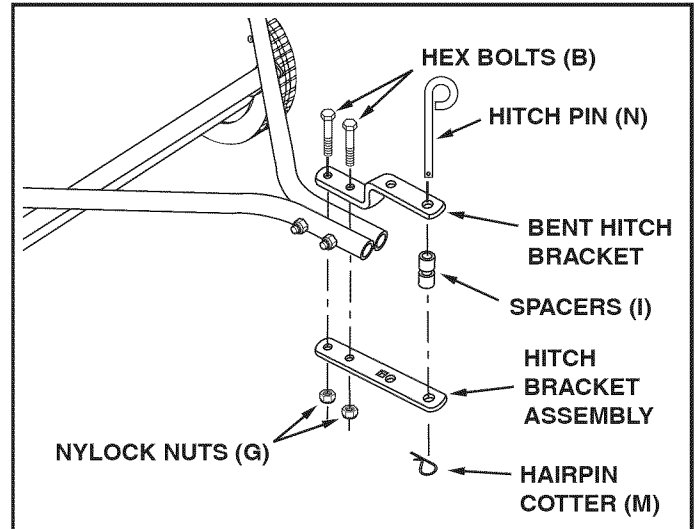

FIGURE 9
- If the tractor hitch is less than 10" above the ground, assemble the hitch brackets as shown in figure 9. Insert two hex bolts (B) through the brackets, with the rear hex bolt between the cross bolts in the hitch tubes. Secure the hex bolts (B) with two nylock nuts (G). **Do not tighten yet.**
- Assemble the two spacers (I) onto the hitch pin (N) and secure the pin with the hairpin cotter (M).
### STEP 10b: (SEE FIGURE 9)